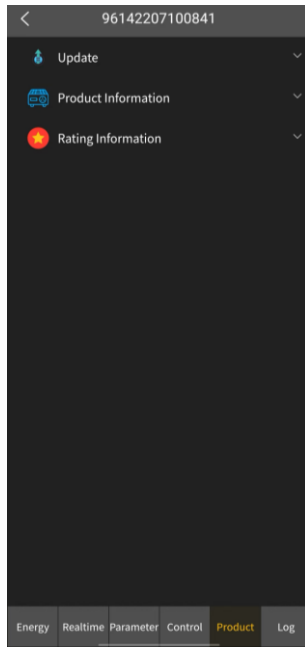

Figure 2
3. Click the "v" icon marked in red on the right side of the "Update" in Figure 1 to open the collapsible panel, as shown in Figure 2.